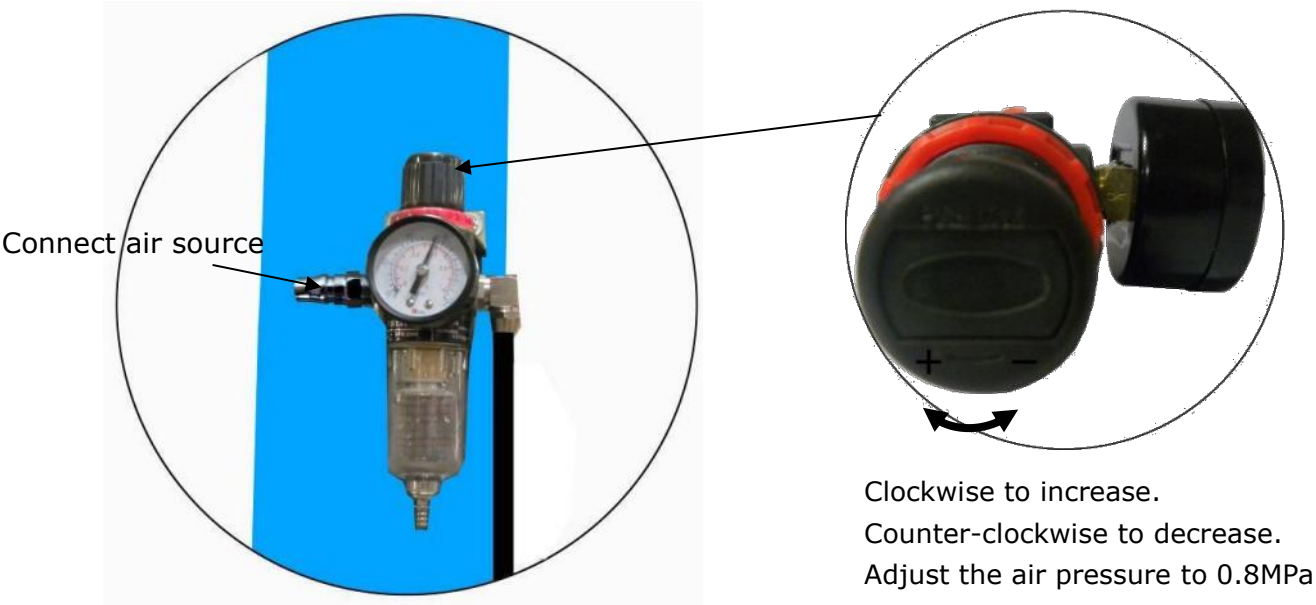

Fig.42
5. Connect to the air source (Air supply pressure 5-8 kg/cm²), adjust the air pressure of Oil-water separator to 0.8 MPa **(See Fig. 42) .**